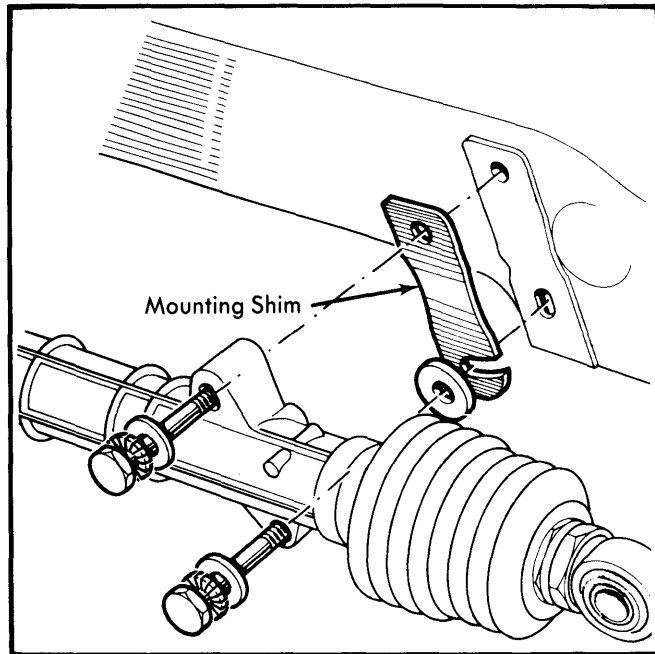

Fig. 4 Detailed Location of Mounting Shims (R-12 Shown, R-5 Similar)
5) On R-12 with Auto. Trans., an adjusting shim is inserted between each mounting boss and steering box. Lower slot of each shim varies, depending upon height setting desired. Using a shim with greatest distance between top mounting hole and lower mounting slot will give steering box its lowest setting (See Fig. 4).